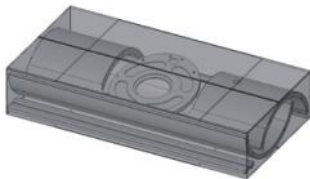

FIG. 3 - SIDES AND TOP PACKAGE
- A cardboard box contains the top and sides Fig. 3 (the box is packed in the pallet containing the refractory parts).